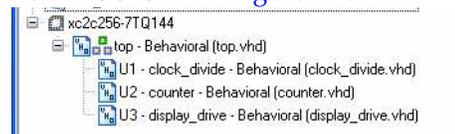

Figure 4-19: Hierarchy in Sources Window
5. **Save** the file. You should now see in the Project Navigator **Sources** window that the source files are ordered in a hierarchy. Top.vhd is the top level and the other three modules all sit underneath as shown in Figure 4-19.